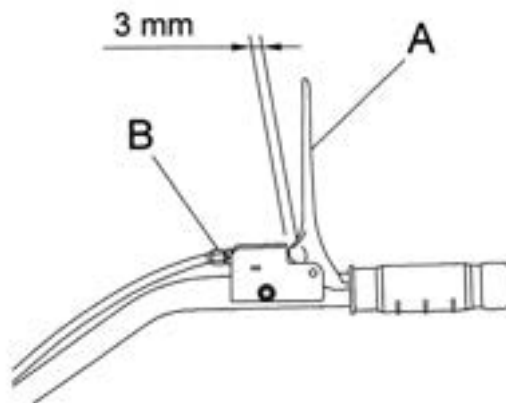
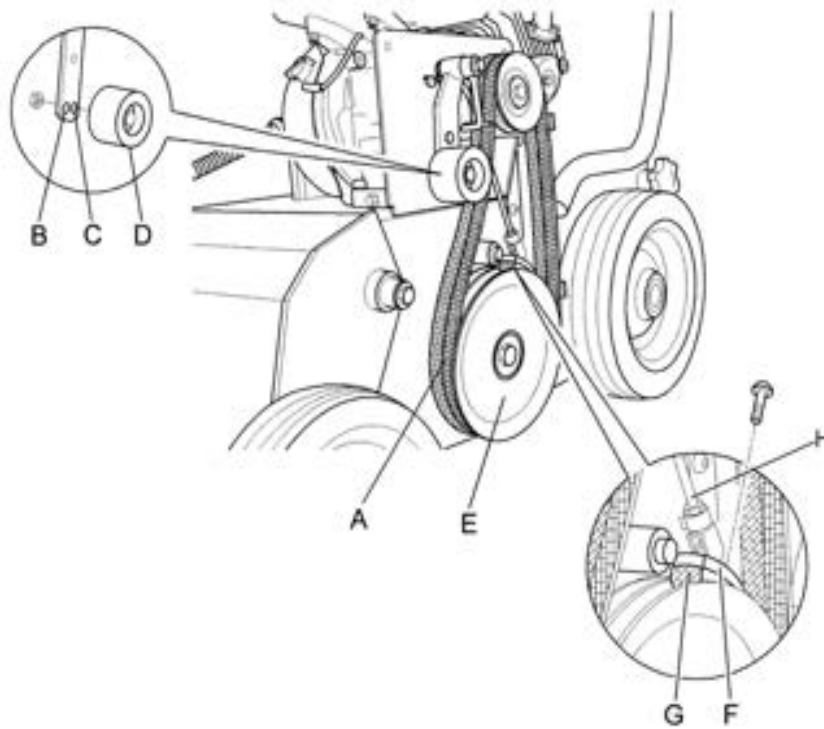

Figure 6
Figure 8
A) BLADE HOLDER ROTOR CONTROL CABLE (Fig. 6)
For correct machine functioning there must be a play of approx. 2-3 mm on the blade holder rotor control lever. If there is no play, it must be taken up by turning the special adjustment screw clockwise or anticlockwise (Fig. 6, Ref. B).
- If the belts (Fig. 8 ref. A) are slack and fail to draw the pulley connected to the blade rotor (Fig. 8 ref. E) , move the tightener (Fig. 8, ref. D) from the lower hole (hole C) to the upper hole (hole B) as shown in Fig. 8.
The rotor brake (Fig. 8 Ref. F) is connected to the blade holder rotor control cable (Fig. 6 Ref. B). Operating the lever (Fig. 6 Ref. A) automatically disengages the brake. Releasing the lever engages the brake and locks the rotor.
In the instance of incorrect function either screw or unscrew the tie-rod (Fig.8 Ref. H) and check the condition of the braking element (Fig. 8 Ref. G), replacing it if necessary.